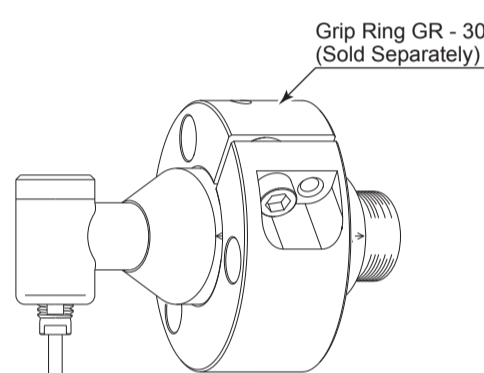

Fig. 6
- \* When installing the Spindle, it is recommended to use a "GR - 30 Grip Ring (sold separately (Fig. 6))". If the GR - 30 Grip Ring cannot be used due to the restriction of dimension and space, install as shown in ② below.